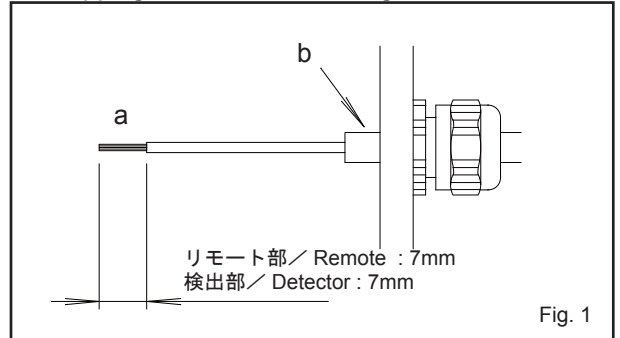
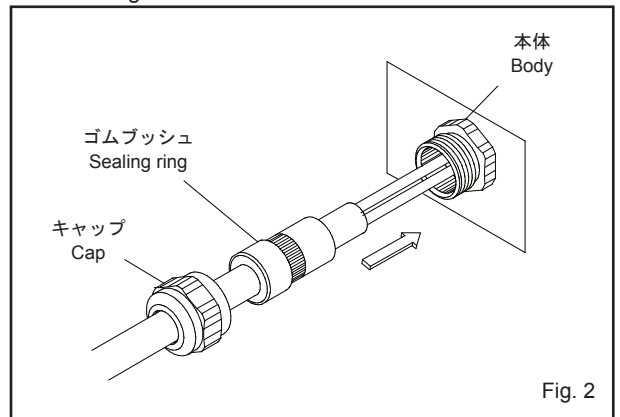

Fig. 1
Fig. 2
●ケーブルの処理／固定位置 (Fig. 1-a / 1-b)
●ケーブルの取付 (Fig. 2)
- Measure of Stripping Insulations/ Fastening Position of Cable <Fig. 1-a / 1-b>
- ① Strip outer sheaths of cables and insulations of cores.
- ② Make sure that outer sheath of cable is positioned inside of the Terminal Box properly in tightening cable.
- Mounting of Cable <fig. 2>